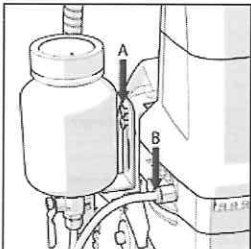

Fig. 3
- The coolant system should be fastened to the machine using the $\varnothing 6$ mm socket headed screw inserted into the threaded hole located at the top left hand side of the machines carriage. (**Fig. 3 a**)